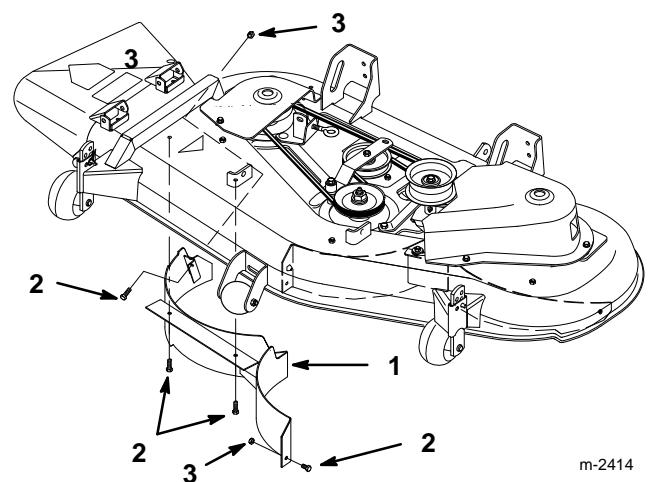

Figure 6
2. Remove lock nuts from top and center of right side baffle (Fig. 6). Lower baffle and slide out of discharge opening to remove.
3. Install previously removed 5/16–5/8" (16 mm) bolts and 5/16" lock nuts in open holes of mower for safety (Fig. 6).